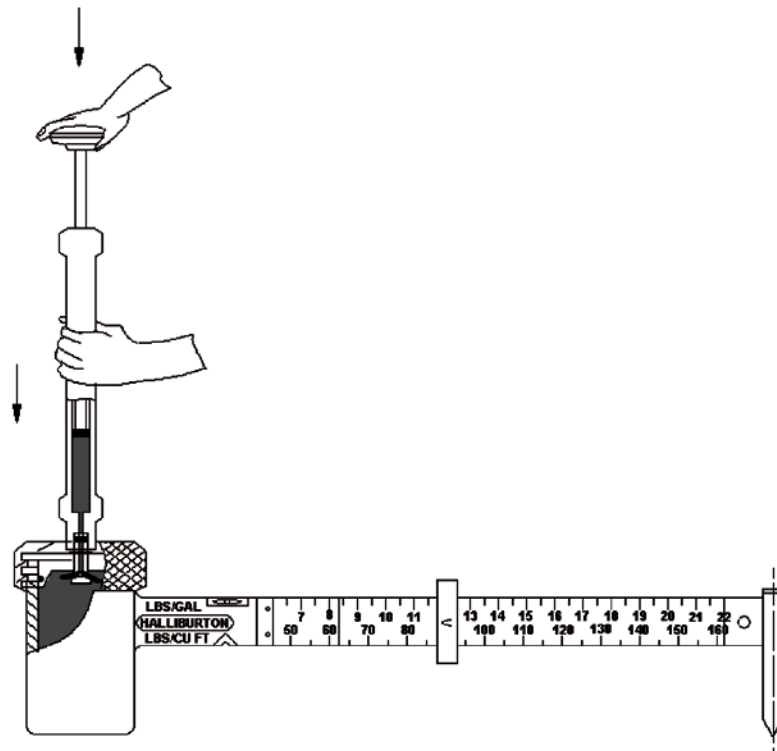

Figure 4-4 Pressurizing the sample cup
2. Push the nose of the plunger onto the check valve (Figure 4-4). To pressurize the sample cup, forcefully hold the cylinder to keep the check valve down (open); and simultaneously, apply and maintain approximately 50lb of force on the piston rod.